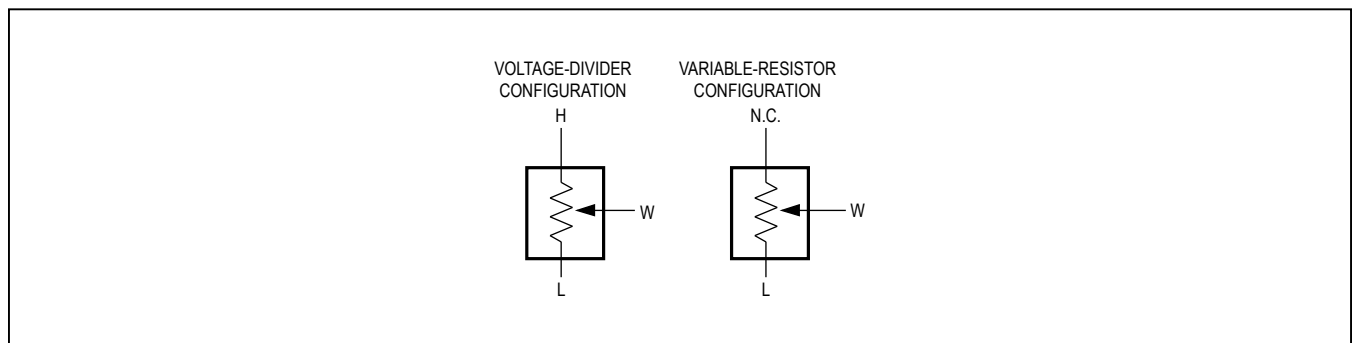

Figure 1. Voltage-Divider/Variable-Resistor Configurations
**Note 2:** DNL and INL are measured with the potentiometer configured as a voltage-divider (Figure 1) with  $H = V_{DD}$  and  $L = GND$ . The wiper terminal is unloaded and measured with an ideal voltmeter.
**Note 3:** R-DNL and R-INL are measured with the potentiometer configured as a variable resistor (Figure 1). DNL and INL are measured with the potentiometer configured as a variable resistor.  $H_{-}$  is unconnected and  $L_{-} = GND$ . For  $V_{DD} = +5V$ , the wiper terminal is driven with a source current of  $400\mu A$  for the  $10k\Omega$  configuration,  $80\mu A$  for the  $50k\Omega$  configuration, and  $40\mu A$  for the  $100k\Omega$  configuration. For  $V_{DD} = +2.6V$ , the wiper terminal is driven with a source current of  $200\mu A$  for the  $10k\Omega$  configuration,  $40\mu A$  for the  $50k\Omega$  configuration, and  $20\mu A$  for the  $100k\Omega$  configuration.
| 1               | 11/09         | Released MAX5386LATE+ and MAX5386NATE+ in Ordering Information ; corrected specifications for Full-Scale Error, Zero-Scale Error, and Integral Nonlinearity in Electrical Characteristics ; added I.C. row to Pin Description ; corrected Figure 1 | 1, 2, 7       |